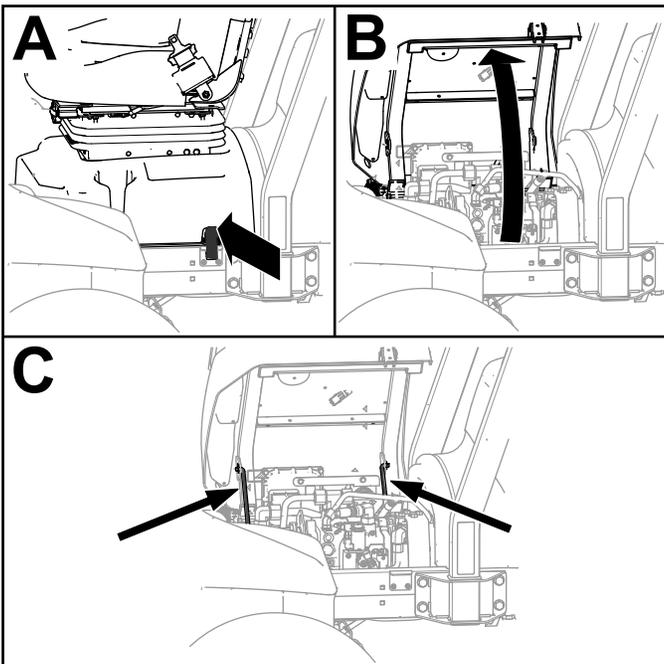

Figure 64
1. Unlatch the seat base (A of Figure 64).
2. Tilt the seat and base open (B of Figure 64).
3. Support it with the prop rods (C of Figure 64).